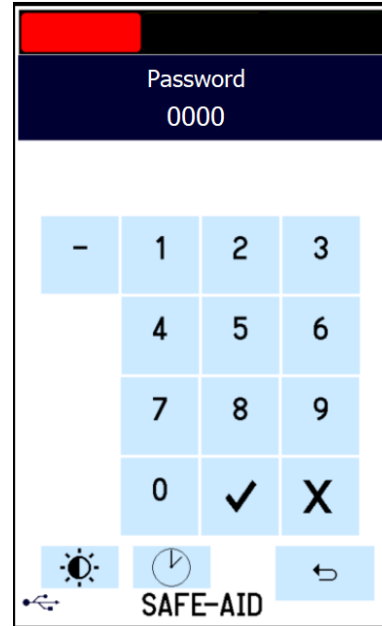

Figure 23
1. To access the wind speed menu from the operating screen, press the block where the current wind speed is displayed, a **Password** screen will be displayed (figure 23).